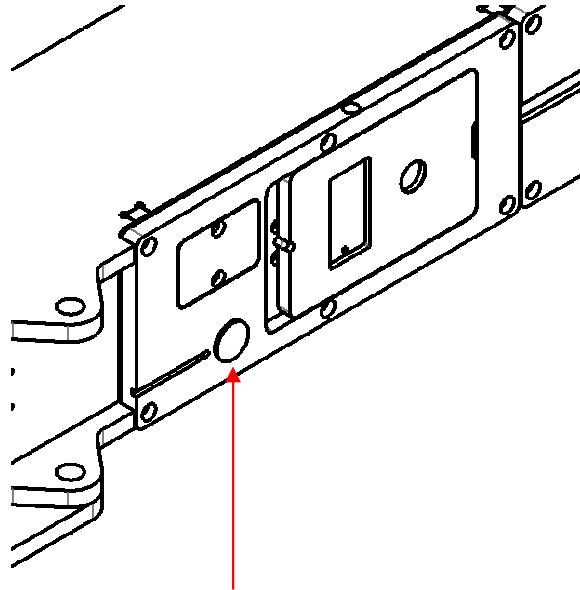

Figure 23 – Manual push button
1. Position the NICO device above the corresponding corner casting and, after ensuring the TwistLock pin can turn freely **in the ISO corner casting**, manual operation can be performed by pressing the push button located on the battery casing (*Figure 23 –*). When the pin has fully turned and the LEDs are green, the load can be safely lifted.